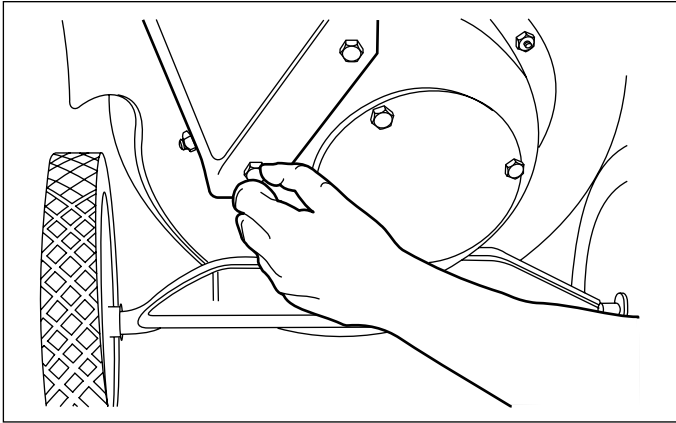

Figure 12. Removing the Shredder Hopper
3. Detach the shredder hopper from the rotor housing (Figure 12).
3. Detach the shredder hopper from the rotor housing (see Figure 12).